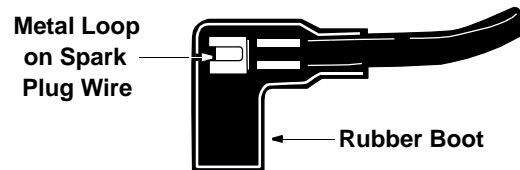

Figure 16
- Attach spark plug wire to spark plug. Make certain the metal loop on the end of the spark plug wire (inside the boot) is fastened securely over the metal tip on the spark plug. See Figure 16.